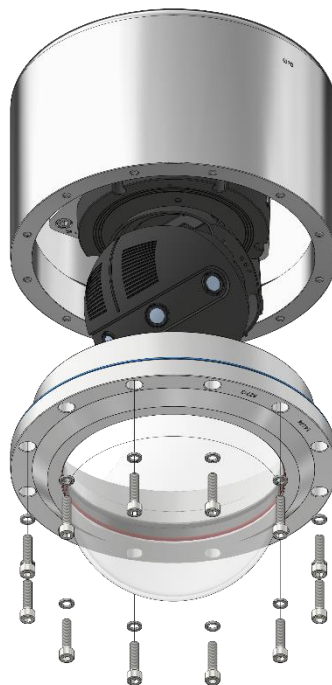

Fig. 6-4: Exception ExCam T08-VA4.1K.PS1
- Carefully pull out the cable and supply flange to the rear and strictly vertically/perpendicularly (see Figure 6-4). There is a risk of side tilt! Because of negative pressure it may be difficult to remove the flange.
Exception: There is no cable and supply flange for models of the ExCam series T08-VA4.1K.PS1. For this models pull out the optical flange (see Fig. 6-4).